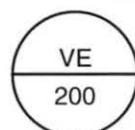

Figure 45. Instrument Tag
3. Determine the measured variable indicated in the instrument tag in figure 45.